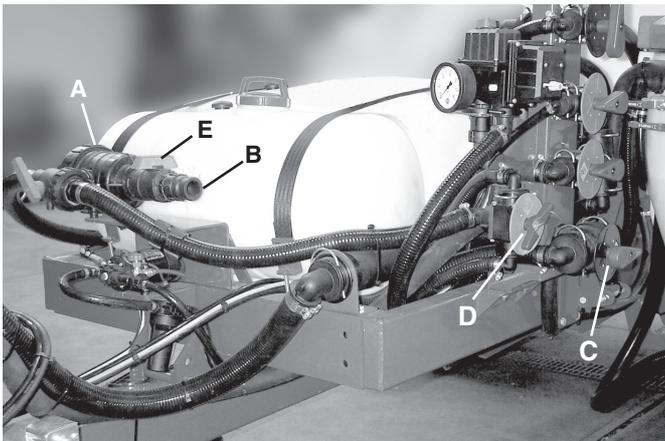

Fig 25
This system allows the operator to connect, via a 1 1/2" camlock (B Fig 25) a hose from, eg. a fire fighter or overhead fill tank, and fill the main tank.
- 1 Remove the cover from the camlock fitting on valve (E Fig 25) at the front of the Fill Filter (A Fig 25).
- 2 Connect the filling hose from the water supply to the camlock (B Fig 25).
- 3 During filling procedure keep Suction Valve (C Fig 25) turned OFF.
- 5 To select which tank to fill, turn handle on the blue FILL valve (D Fig 25) to align with the icon indicating the required tank (Main tank or Flush tank).
- 6 Open the valve at the filling filter (E Fig 25).